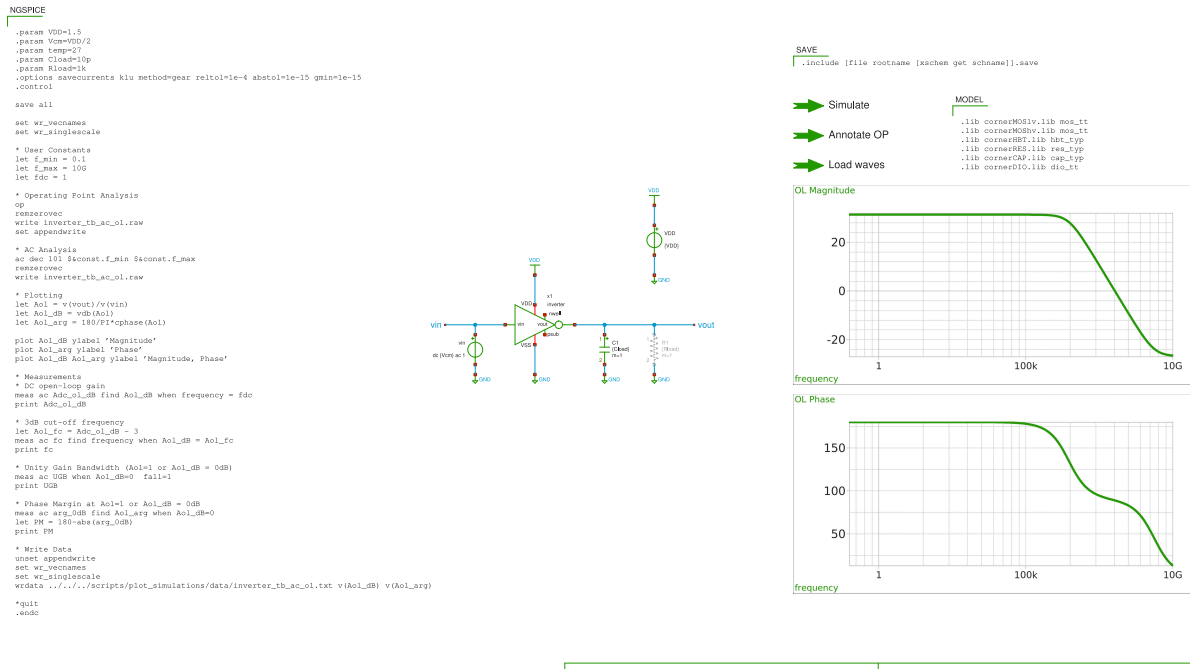

Figure 9: Xschem testbench `inverter_tb_ac_ol` (open-loop ac characterisation on inverter).
- `inverter_tb_ac_ol.sch`, open-loop ac characterisation (see Figure 9),